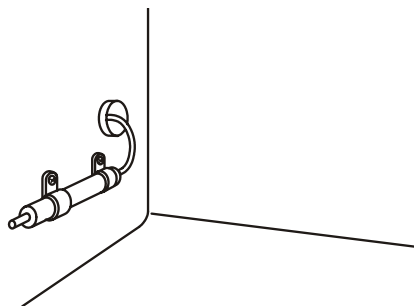

Fig. 14
5. Fix the recorder sensor to the attachment hole on the left side of the freezer by using the middle size clips enclosed with the recorder fitting (MPR-S30: optional component). (Fig. 14)